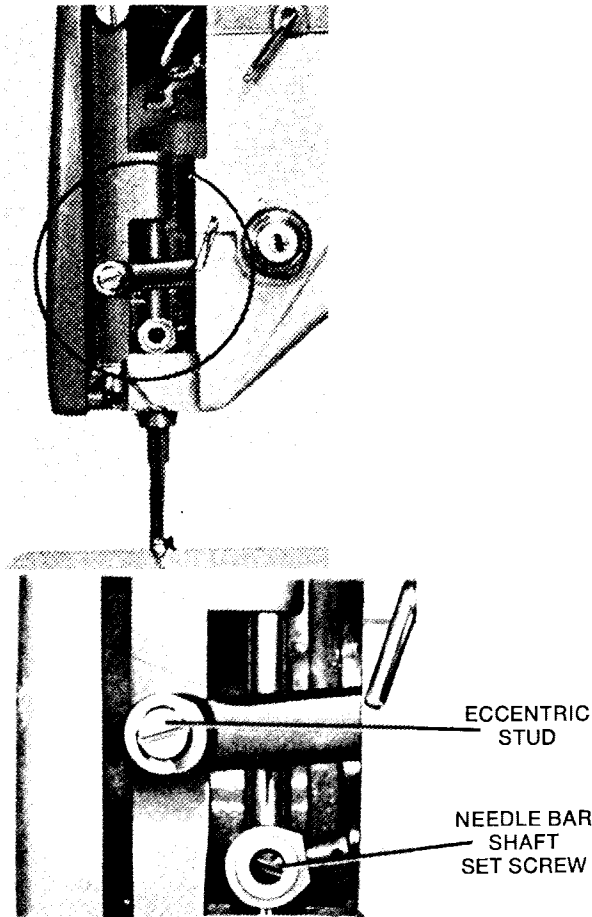

FIG. 1
- 3) If needle is not entering in the center, correct by turning eccentric stud in Fig. 1 to center needle in slot.
- 8) If hook point is not in position as in Fig. 7 above, loosen the needle bar shaft set screw, Fig. 1, and raise or lower needle bar very carefully. If needle bar is too high, skipping will result. If too low, needle will hit bobbin case and become blunt or break. Be sure needle eye is facing forward and is not turned sideways.